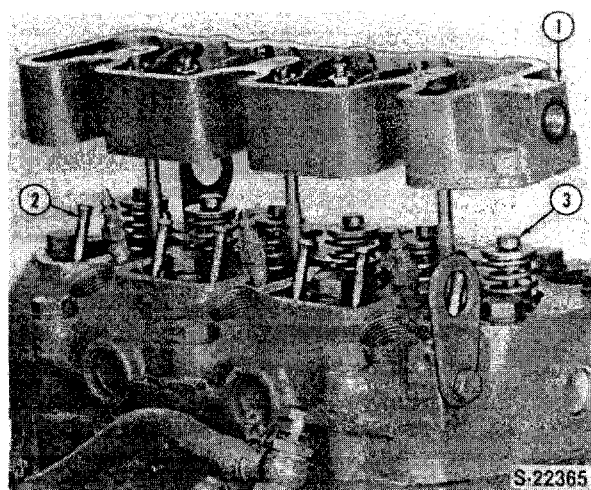

Figure 11
15. Remove the valve rocker arm shaft and support as an assembly, Figure 11.
16. Remove the valve stem caps and push rods, Figure 11.